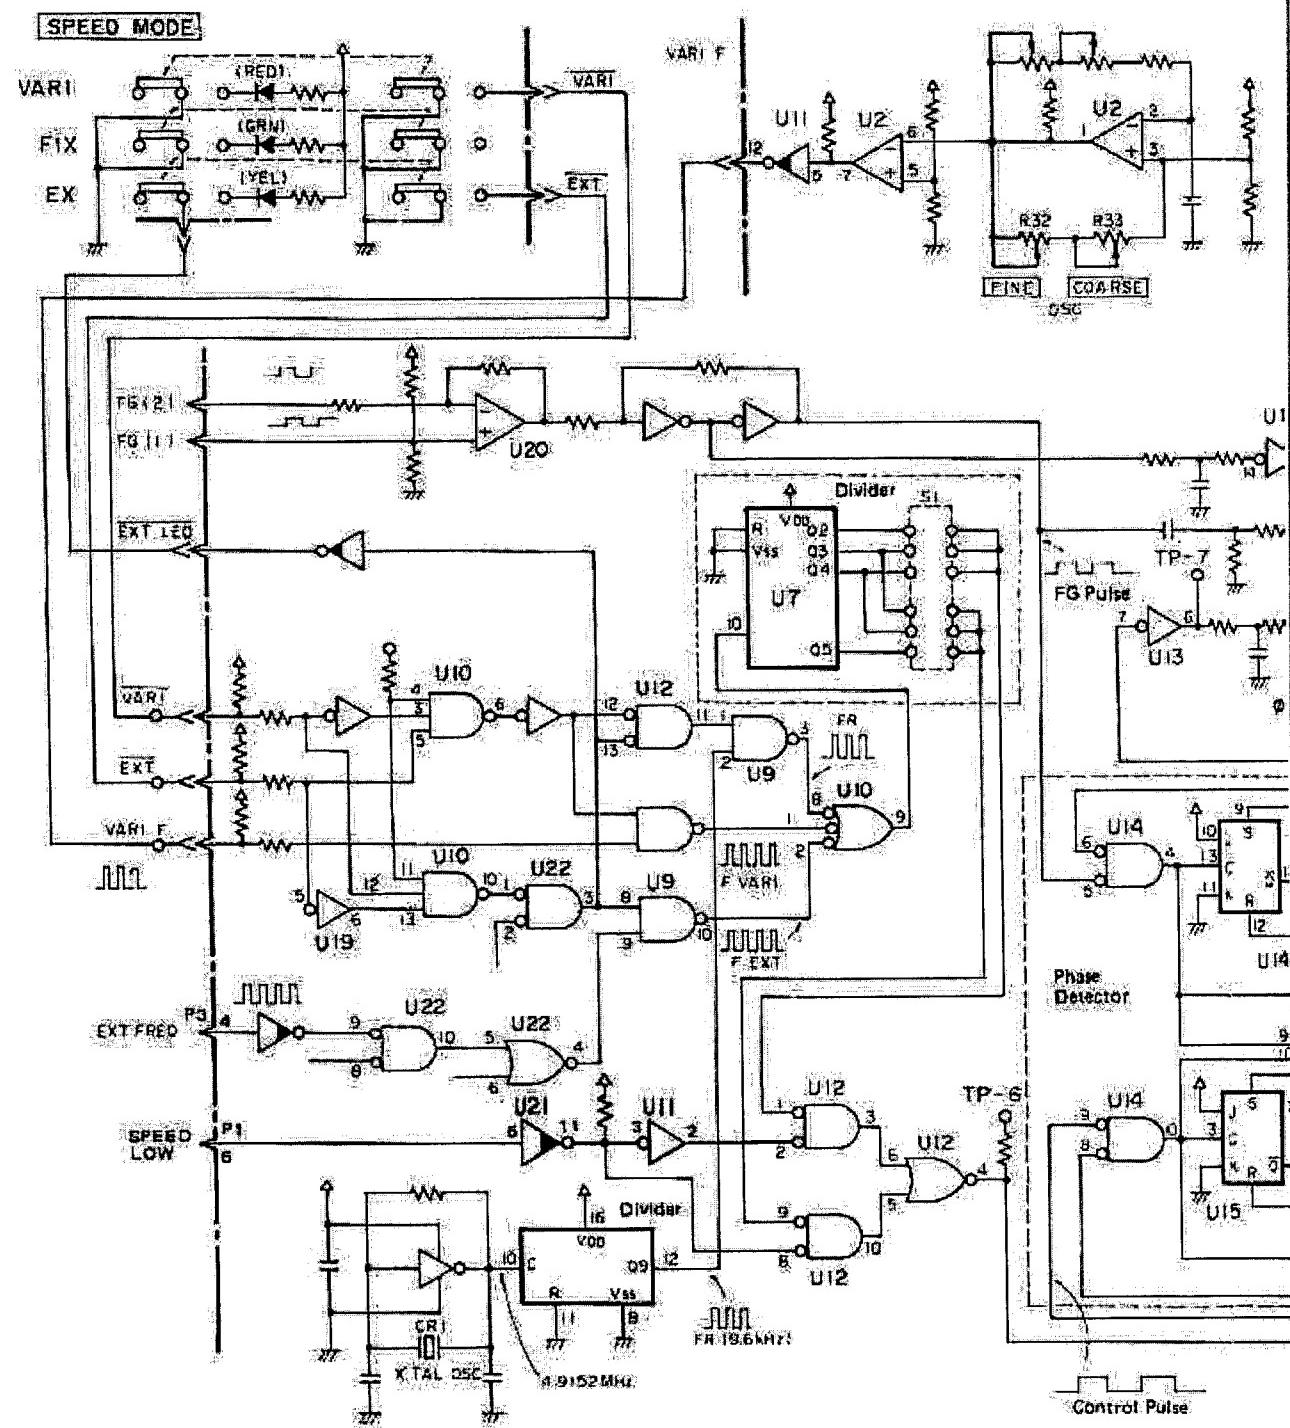

Fig. 8-7-8. Capstan Motor
- When the speed mode switch on the pitch control display PC board is set to the VARI, FIX or EXT positions, the selected circuit becomes L (Refer to Fig. 8-7-8).